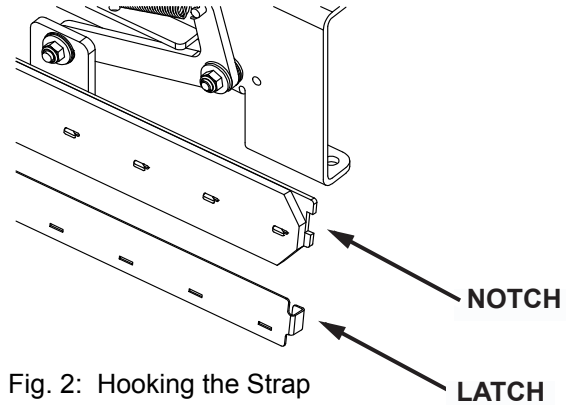

Fig. 2: Hooking the Strap
6. Replace the side squeegee retaining strap by first hooking the forward end around the notch at the front edge of the side squeegee frame. (See Fig. 2)